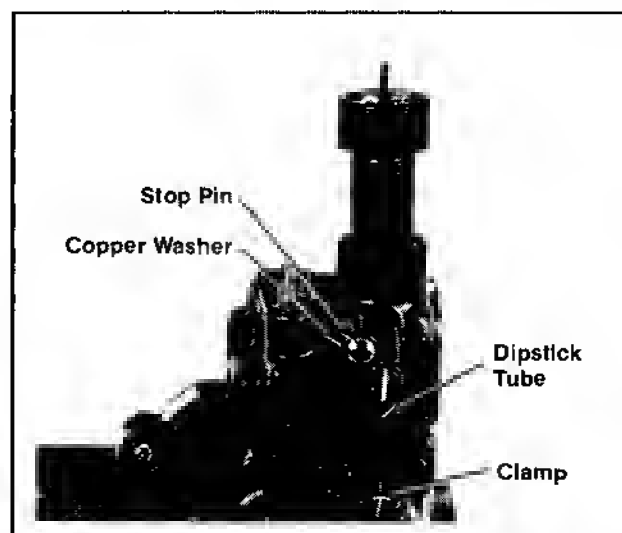

Figure 11-9. Installing Governor Stop Pin.
3. Install the copper washer and governor stop pin. Refer to Figure 11-9.